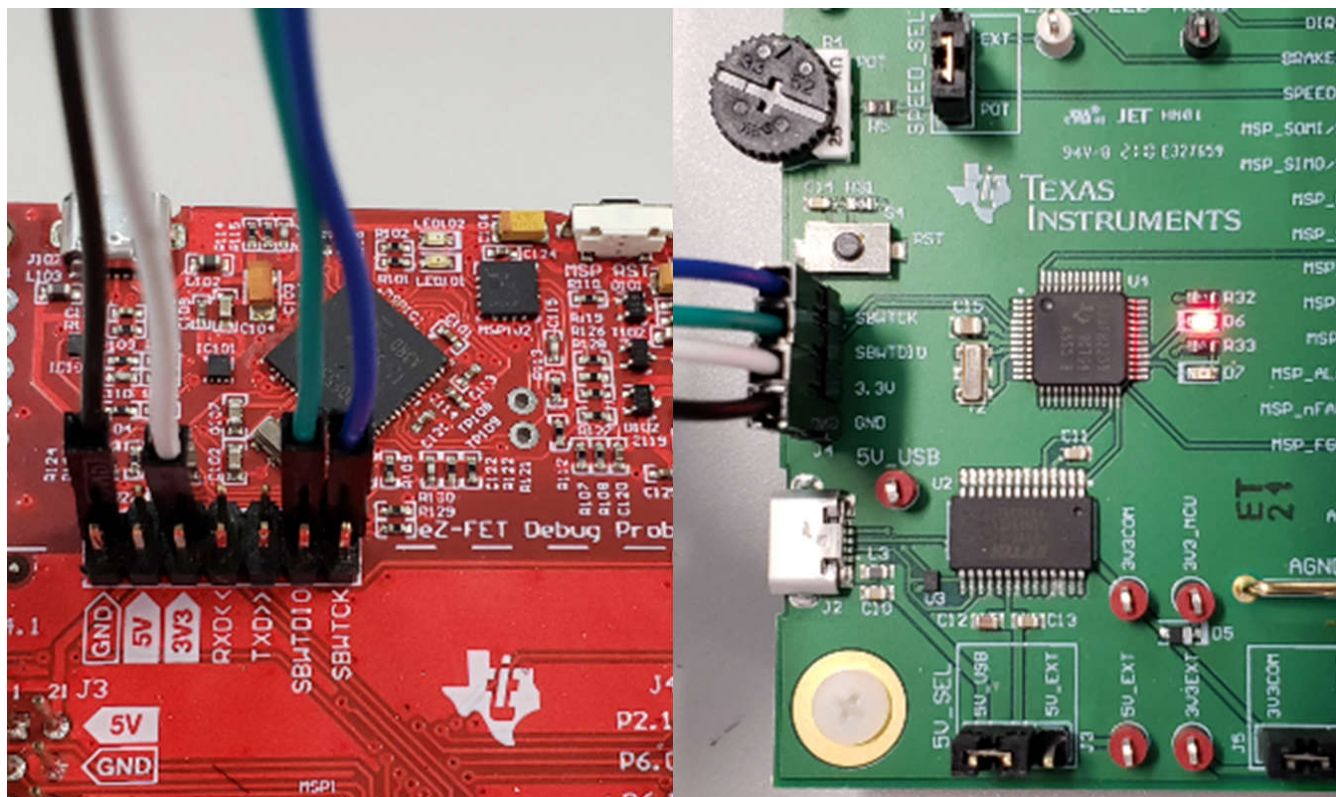

Figure 3-4. MSP430 LaunchPad eZ-FET Probe Connected to MCT8314ZEVm
2. Connect the top pins on the eZ-FET side of the LaunchPad of the GND, 3V3, SBWTCK, and SBWTDIO signals to the respective pins on J4 of the MCT8314ZEVm as shown in Table 3-1 and Figure 3-4.